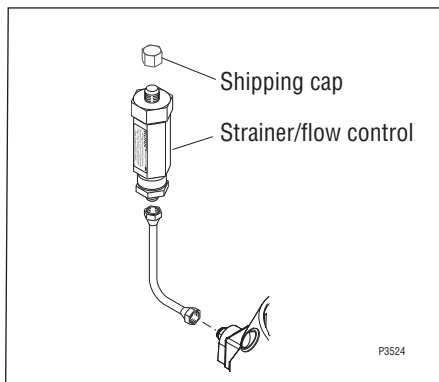

FIG 3. Plumbing
**IMPORTANT NOTE:** *If the brewer is to be used as a pour-over, the cap must be installed on the water inlet fitting, located in the rear of the brewer. (See FIG. 3) Otherwise, prepare the existing water line as defined in “Plumbing Requirements” and then follow the instructions provided below.*